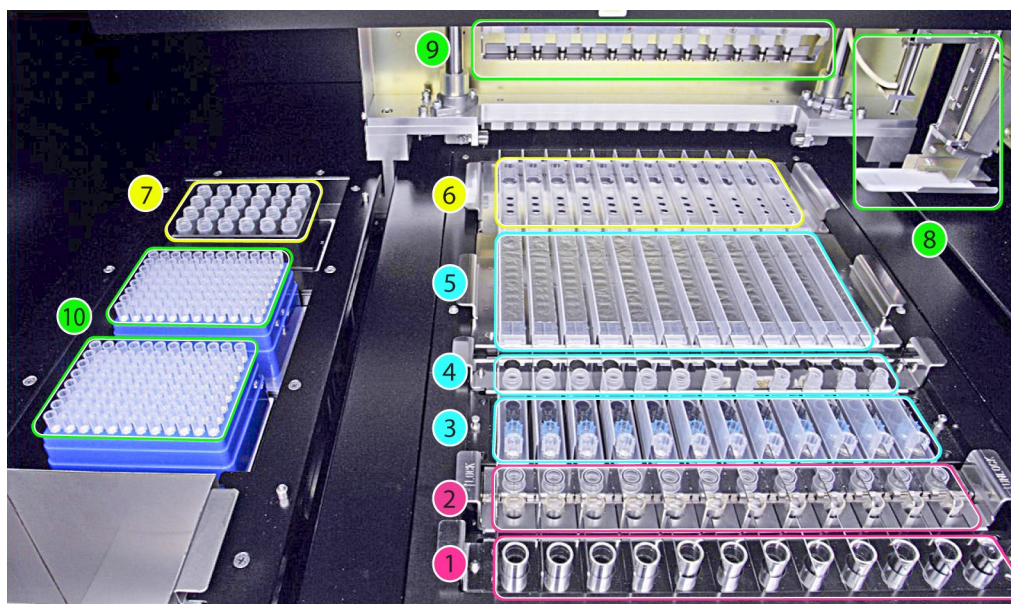

Figure 1: The «ELITE InGenius» loading area
An overview of the «**ELITE InGenius**» instrument is shown in Figure 1.
Figure 1 shows: Primary tube rack position (1), Sonication/Extraction tube and cap rack position (2), Tip rack position (3), Elution tube rack position (Extra Tube) (4), Extraction cartridge rack position (5) and PCR cartridge rack position (6), PCR and Internal Control reagent block (inventory manager) position (7), sample and reagent dispensing (8, 9), the waste box (left-bottom) and tips positions (10).
7. To confirm that sufficient reagents for the number of tests selected are placed in the inventory manager position 7 (cfr. page 12, Figure 1) as indicated on the screen, press the “Next” button.
8. Place sufficient Tips racks in position 10 (cfr. page 12, Figure 1).
10. Place the PCR cassettes indicated in position 6 (cfr. page 12, Figure 1).
12. Place the Extraction cartridge cassette(s) indicated in position 5 (cfr. Page 12, Figure 1) Check visually the extraction cartridges to verify if the beads resuspend correctly; if they do not immediately resuspend, try with vigorous shaking or even with a short vortexing (see “Troubleshooting”).
14. Place the amount of elution tubes Extra Tube, indicated in position 4 (cfr. page 12, Figure 1).
16. Place the amount of Tip cassettes indicated in position 3 (cfr. page 12, Figure 1).
18. Place the amount of extraction tubes indicated in position 2 (cfr. page 12, Figure 1).
20. When "Primary Tube" has been selected as sample position in the "Perform Run" screen, place the Primary Tubes indicated in position 1 (cfr. page 12, Figure 1).